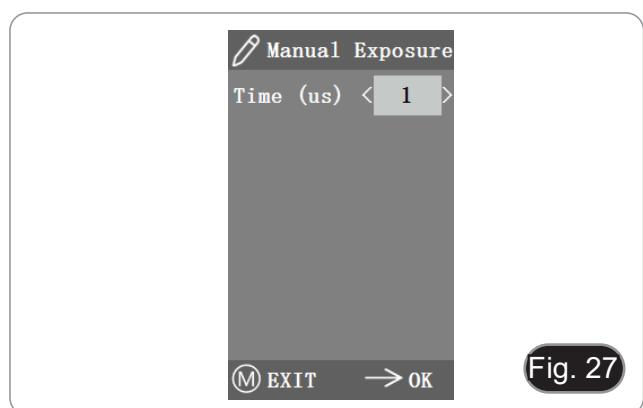

Fig. 27
- In manual exposure, you can also adjust the exposure by adjusting the value of "exposure time". (Fig. 27)